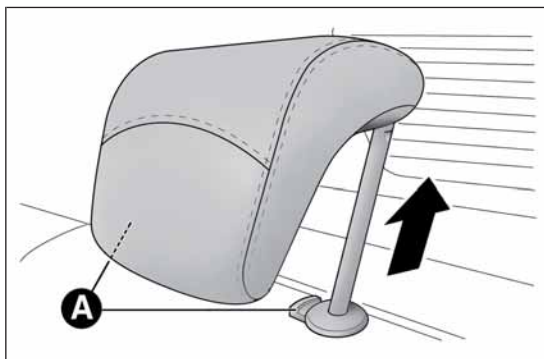

fig. 26
- ☐ press buttons A fig. 26, then remove the head restraints by pulling them upwards.